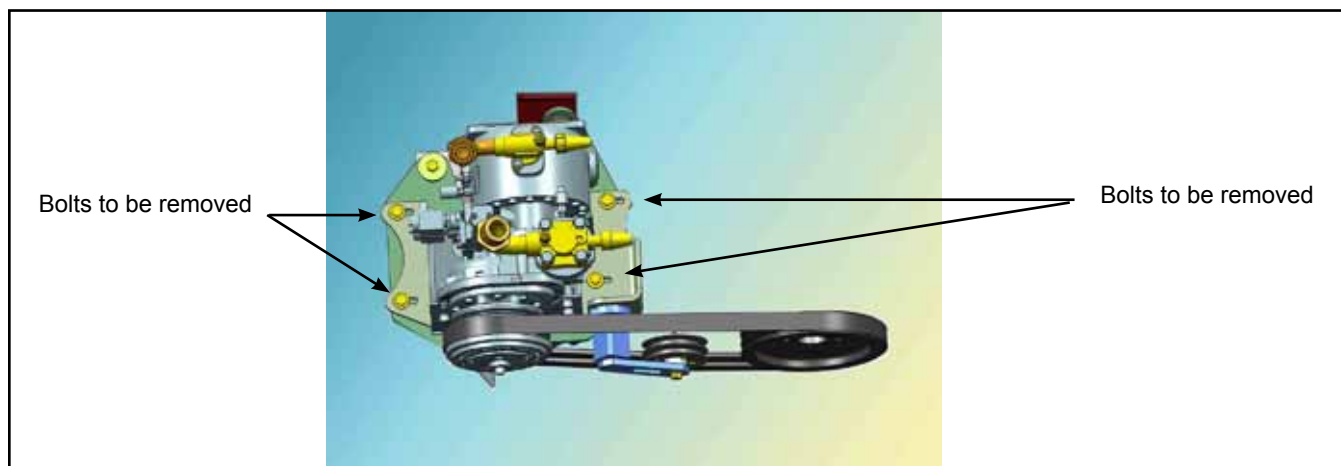

Figure 2 - Bolt Locations (Typical)
- 1.4. Remove the four retaining bolts and nuts that attach the AC compressor plate to the support base. See Figure 2.